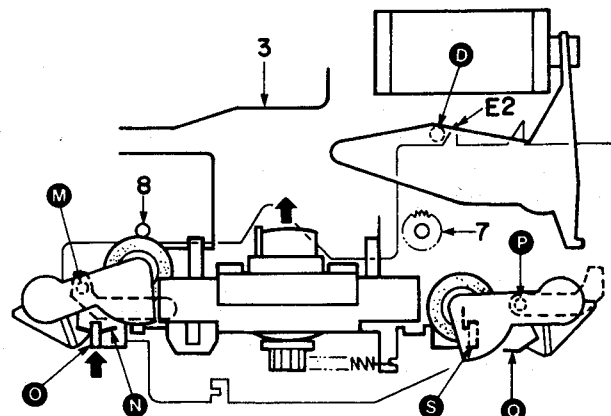

Fig. 14 Perspective view from the front
2-12) When the SUB-CHASSIS comes to the top, the spring (C) of the pinch roller (R) does not contact the SUB-CHASSIS edge (S) because the SLIDER is fixed in position of Fig. 14 by the pin (M) of the FD ARM, and the pinch roller (R) is not pressed against the capstan because the boss (P) is held by the groove of the SLIDER.